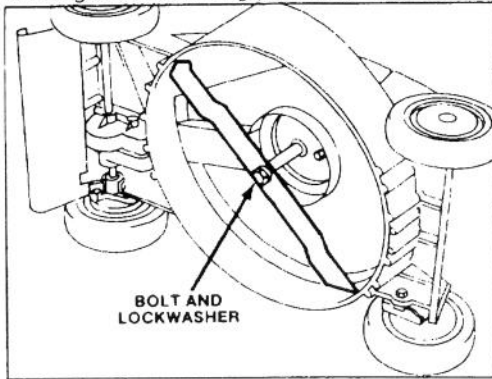

Figure 20
3. Tip mower on its left side (Fig. 20). Avoid rotating blade. Starting problems may result.
5. **REMOVING BLADE** — Grasp end of blade using a rag or thickly padded glove. Remove blade bolt, lockwasher and blade (Fig. 20).